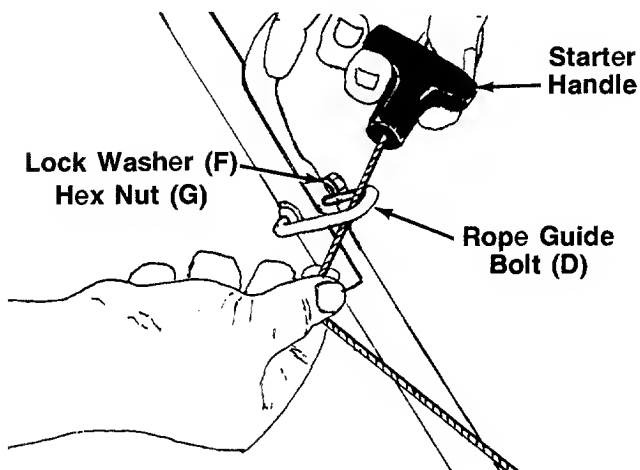

FIGURE 4.
3. Insert the rope guide bolt (D) through the right hand side of upper and lower handle. See figure 4. Secure the rope guide bolt with lock washer (F) and hex nut (G), finger tight only.
6. Slip the starter rope into the rope guide bolt as shown in figure 4. If more slack is needed in the starter rope, disconnect and ground the spark plug wire. Depress the blade control handle and pull additional rope out from the engine.